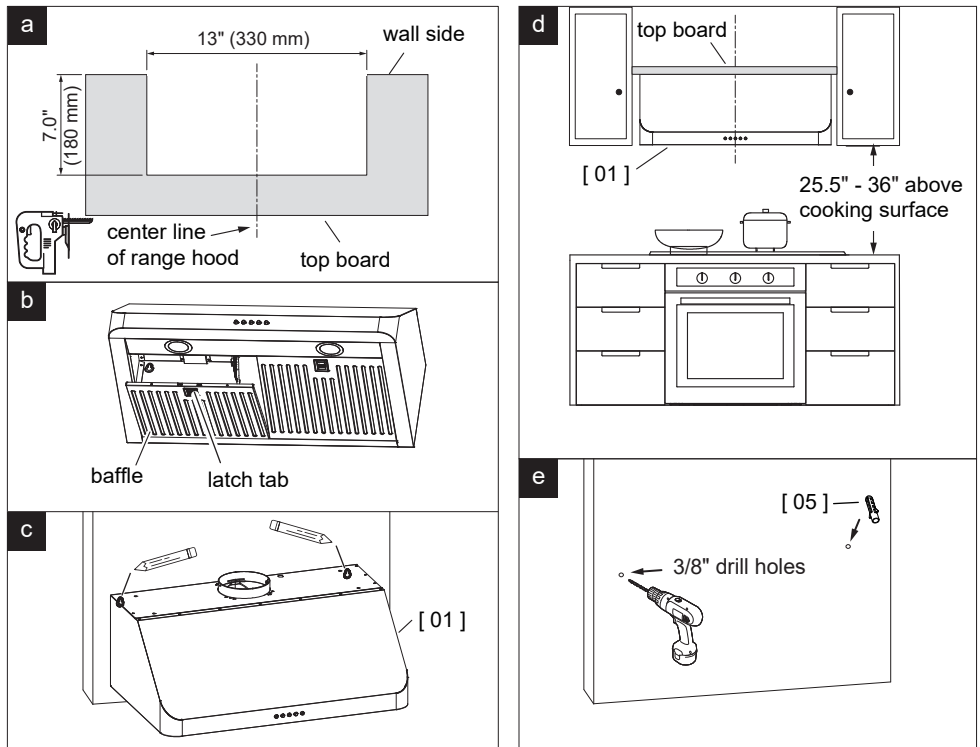

Fig 2
1. Cut an 13"x7" opening on the board which is at the top of the **Range Hood [01]** as Fig 2.a shows.
2. Remove the baffles from the **Range Hood [01]** by pulling down the metal latch tabs and tilting baffles downward to remove. (There are 2 baffles for RH-AZ2576PSS, 3 baffles for RH-AZ2590PSS) (Fig 2.b)
3. Position the **Range Hood [01]** to the wall and push to the **top board**. (Fig 2.d)
4. Mark the screw holes from the inside of **Range Hood [01]** on the wall as figure shows. Remove the **Range Hood [01]**. (Fig 2.c)
5. Drill holes at locations according to Fig 2.e and insert **3/8" Anchors [05]**. (Fig 2.e)